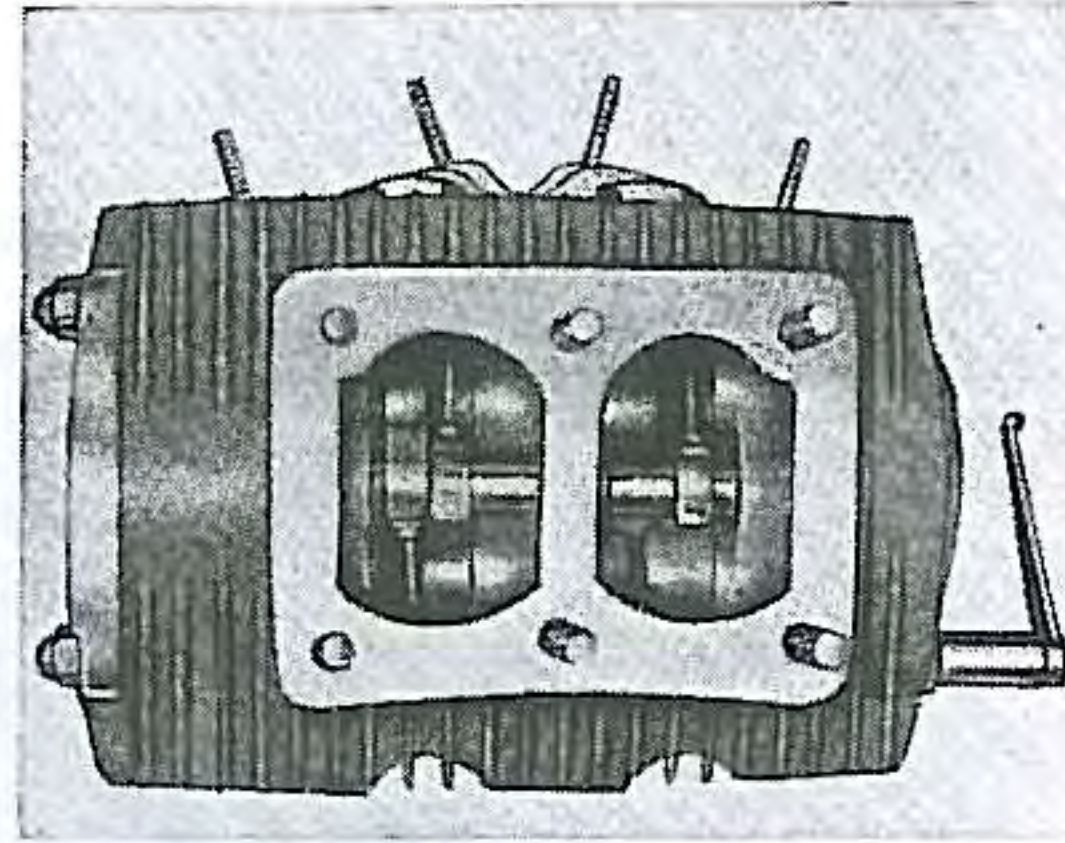
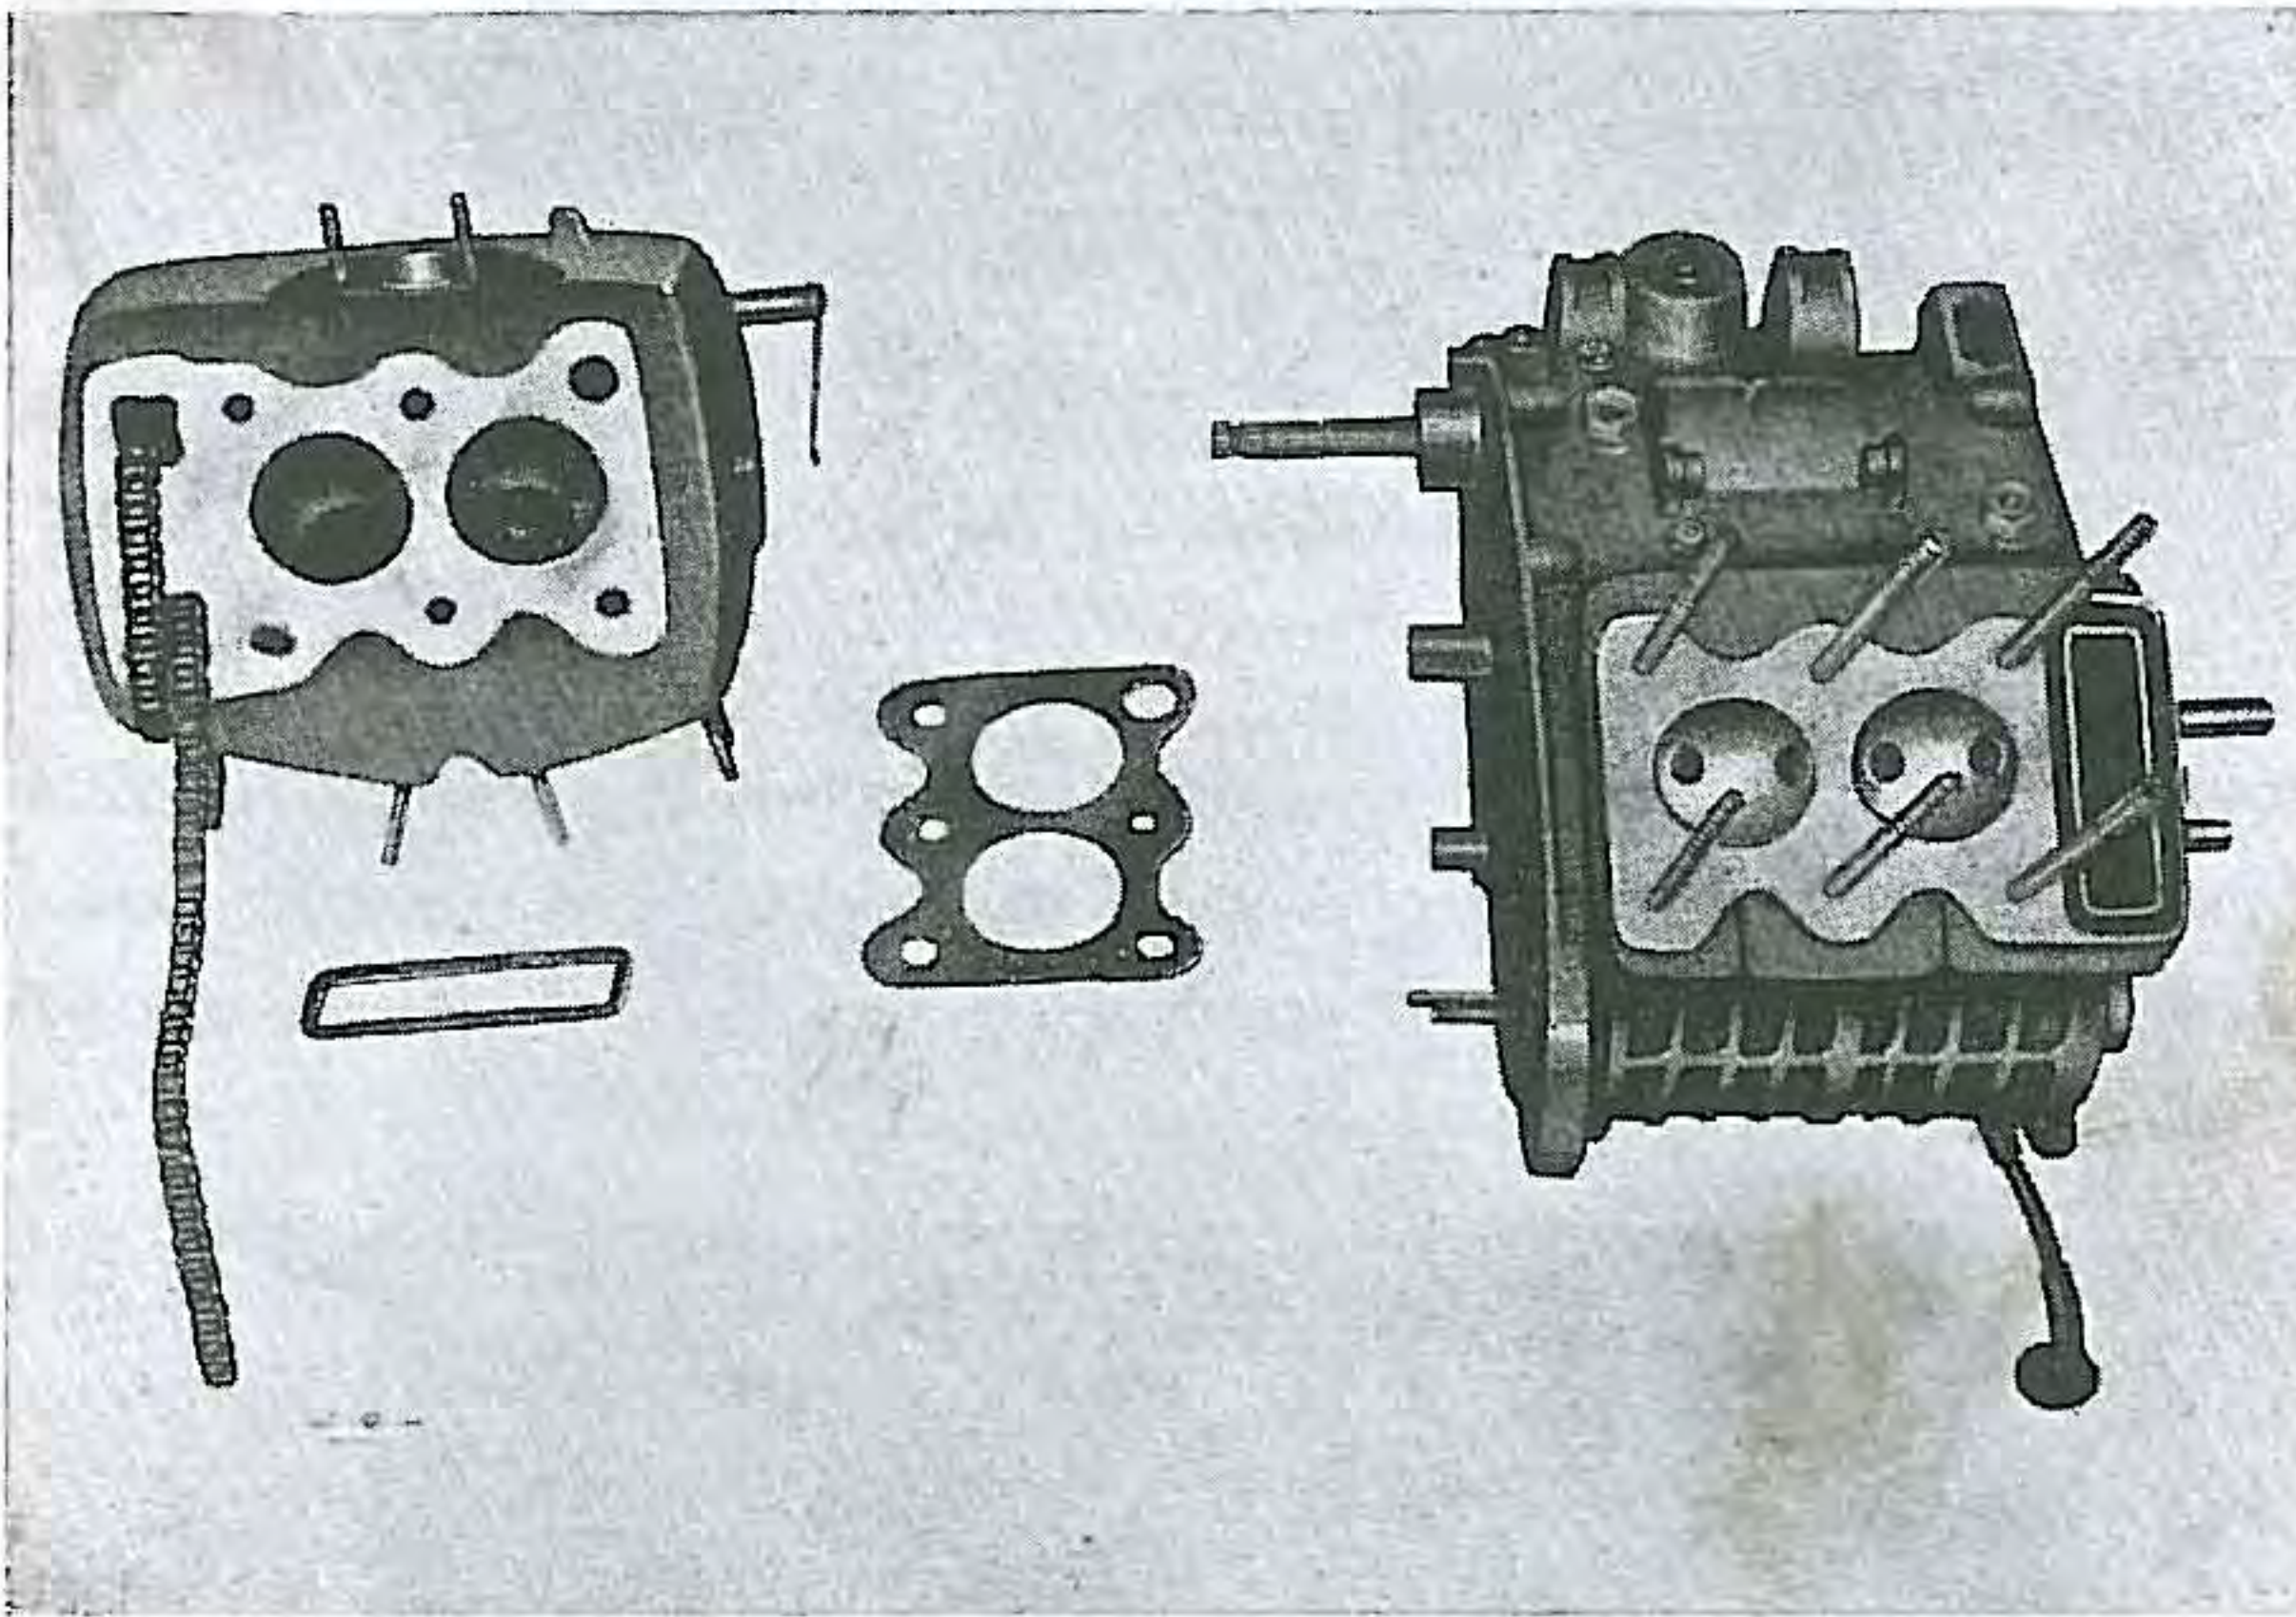

Fig. 29. Removal of cylinder head cover nuts
Fig. 30. Removal of cylinder head and gaskets
- (7) Rotate the crank shaft until the cam chain joint appears on the side of the crank case where the cam chain tensioner rubber roller has been contacted. Then, remove the chain joint and separate the chain.
- (8) Remove the cylinder head cover by releasing 6 nuts on it, (Fig. 29), and the cylinder head may be taken off from the crank case as referred in Fig. 30.